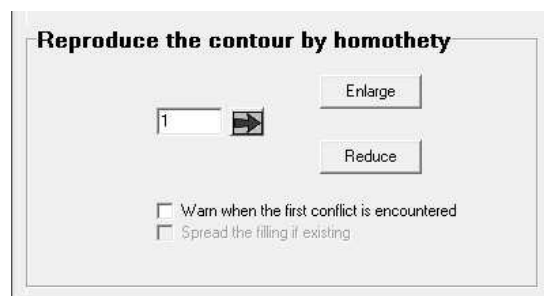

Fig 11 : Homothety options
- In the area “**Reproduce the contour by homothety**”, click on “Reduce” with the number “1” in the textbox. (Fig 11).